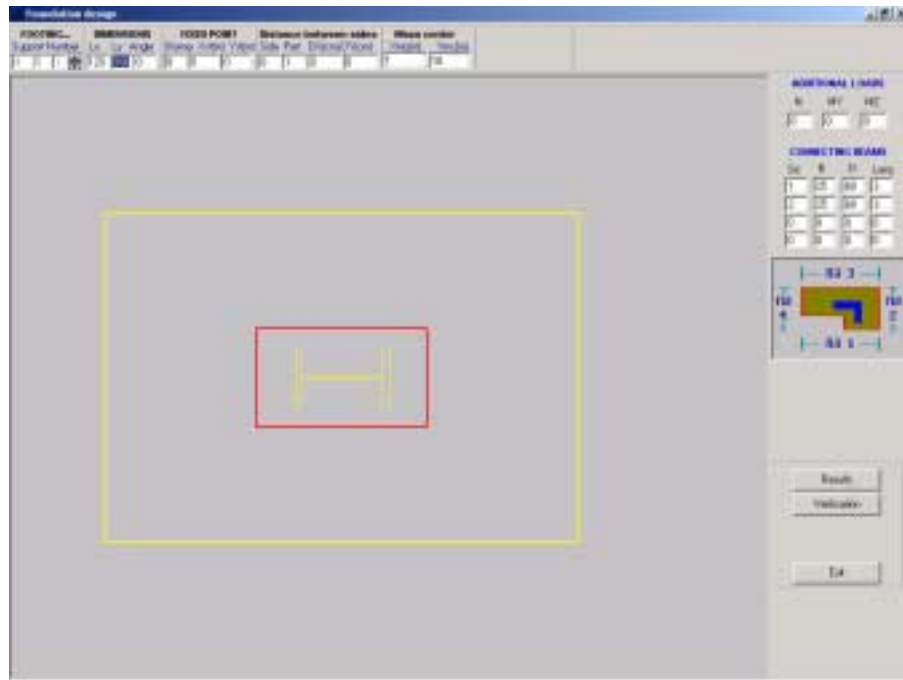

Figure 82 The window of the sub-programme that performs the footing's code check and sets its dimensions.
1. Choose the Analysis > Foundation Design command. The window of figure 82 will appear on the screen.